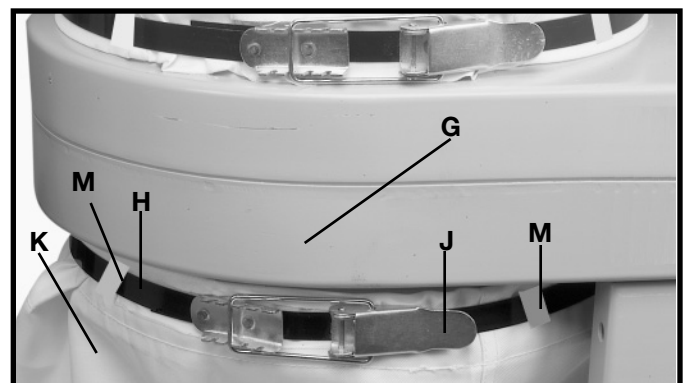

Fig. 16
5. Place the remaining locking band (H) Fig. 16, around the dust collection bag (K) and collection bag loops (M). Position open end of bag over the lip of drum (G) and fasten with locking clamp (J). **NOTE:** Make certain locking band (H) is positioned in the channel of drum before locking clamp (J).